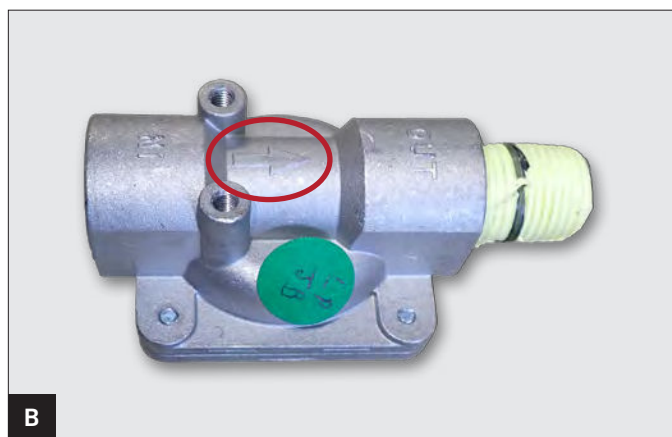

Fig. 1. LP regulator for use with a bulk LP supply (actual regulator may differ). Pay attention to the directional arrow (B).
- **ALWAYS** verify the regulator is set for LP before installation. Pay attention to the inlet and outlet markings and the directional arrow during installation. **See fig. 1.**